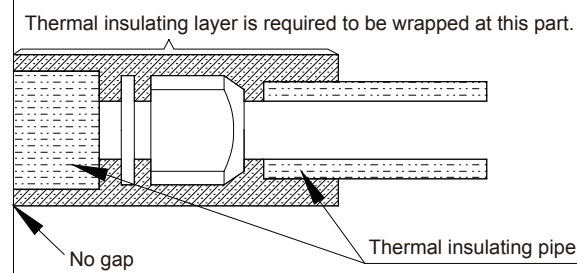

Fig 9
(2)The joints of the indoor unit should be wrapped with the insulating material and no gap is allowed on the joint of the indoor unit, as shown in Fig.9.